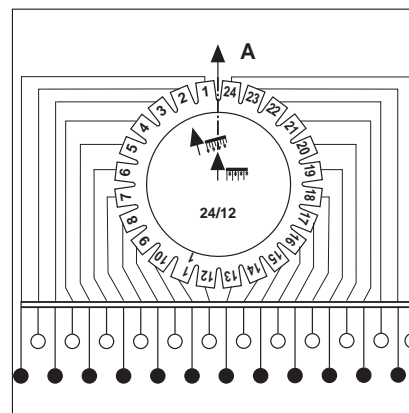

Fig. 24-16
- if the arrow on the reduction head points in the direction of forward travel, only the long coulters deliver seed, see fig. 24-16